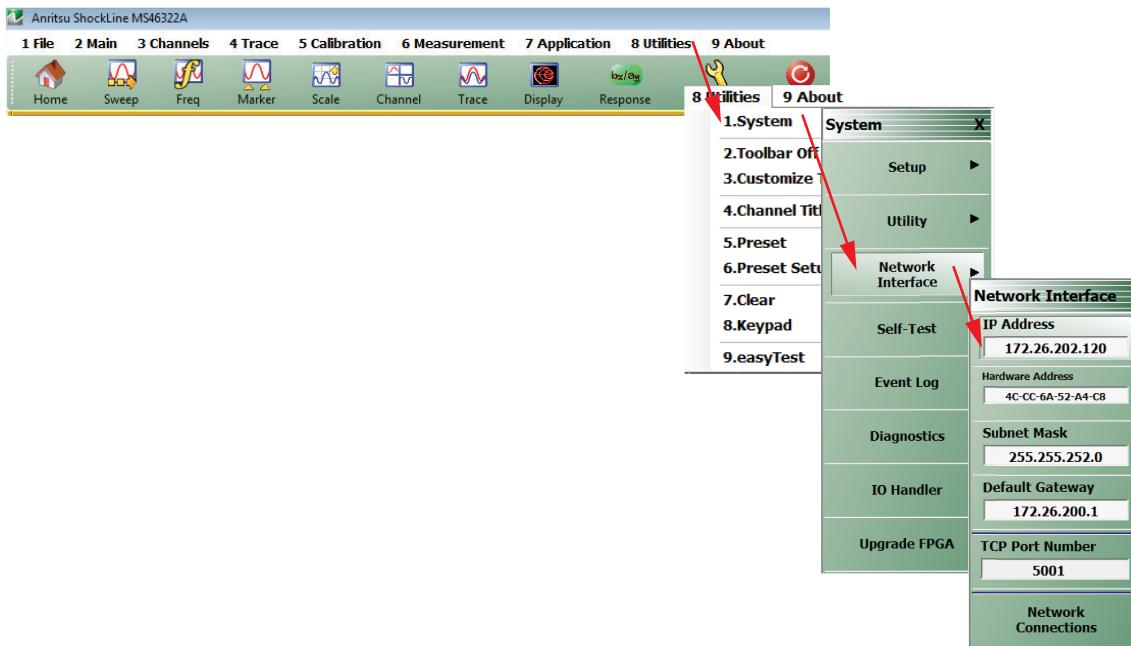

Figure 1-15. IP Address Menu Navigation Path
9. Navigate to the IP Address in the Network Interface menu. See Figure 1-15.